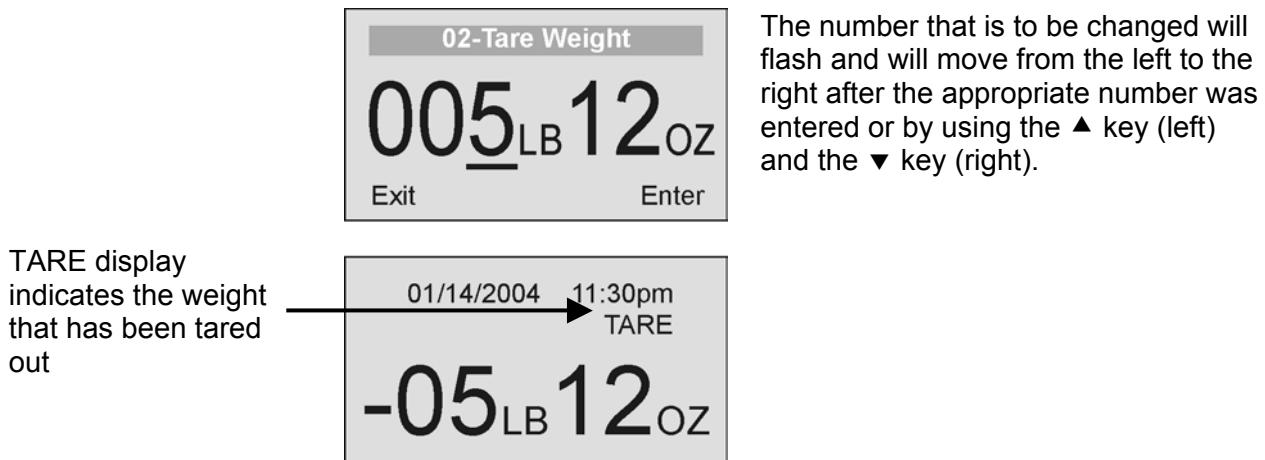

Figure 5. Tare Weight
The user can set a tare weight by pressing the TARE button (9) while there is a weight on the scale platform. The display will come to zero and TARE will be displayed to indicate there is a tare value in the memory (as displayed in Figure 5 above).